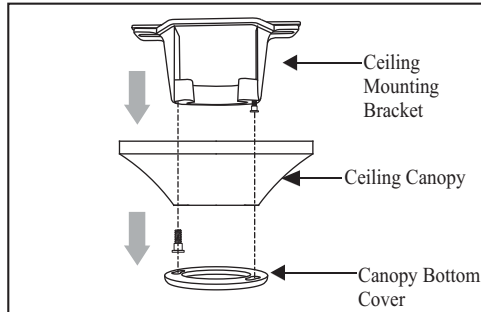

Figure 4
To hang your fan where there is an existing fixture but no ceiling joist, you may need an installation hanger bar as shown in Figure 4 (available at any Home Depot store).
1. Remove the decorative canopy bottom cover from the canopy by turning the cover counter clockwise. (Figure 4)
2. Remove the mounting bracket from the canopy by removing the 1 of 2 screws from the bottom of the mounting bracket and loosening the other one a half turn from the screw head. Next, turn the canopy counter clockwise to removing the mounting bracket from the canopy. (Figure 4)